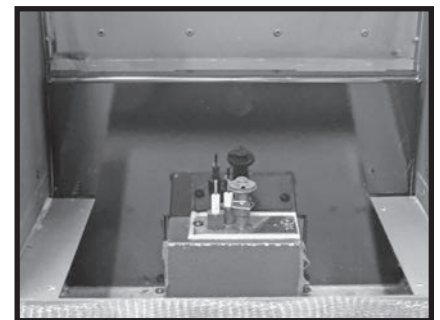

Figure 38: Lower back panel.
4. Remove the lower back panel by lifting it off of the pilot ledge and pull it out of stove (Figure 38).
1. Insert lower back panel so that it is sitting on the ledge at the back of the firebox (Figure 38).